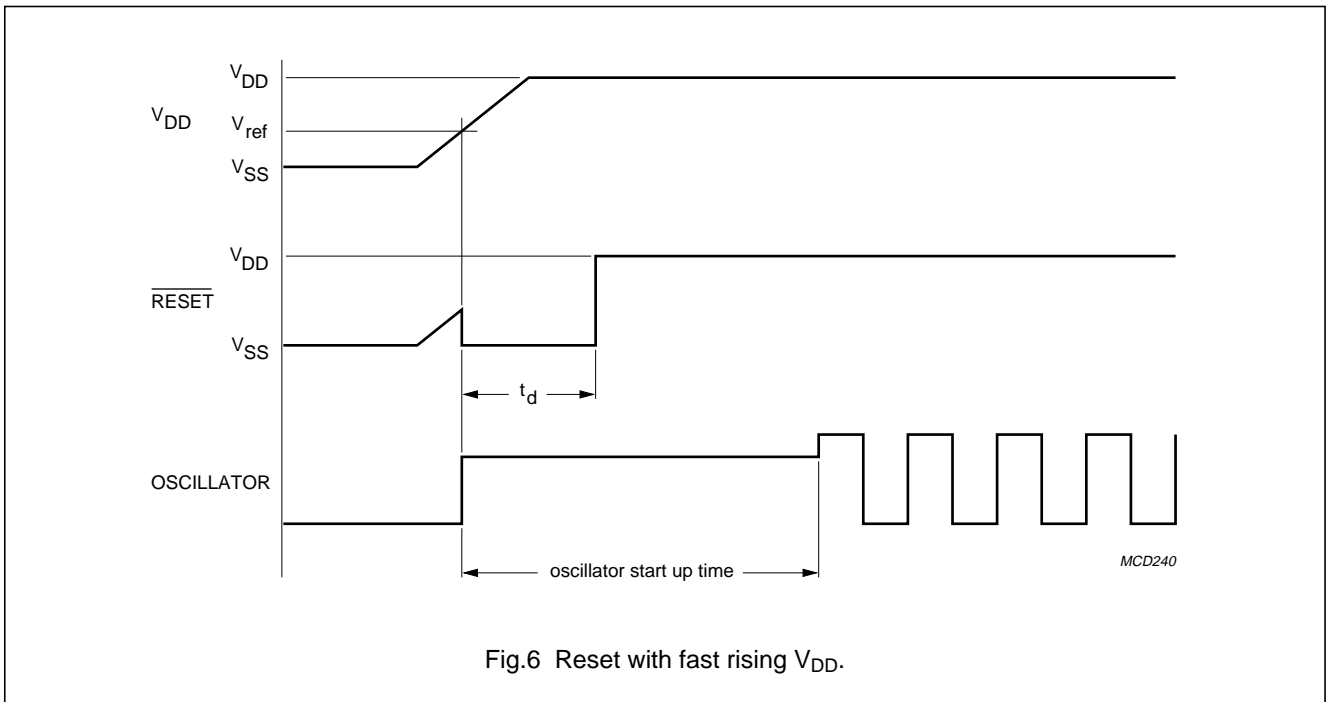

Fig.6 Reset with fast rising  $V_{DD}$ .
- If the  $V_{DD}$  rises above the minimum operation voltage before time period  $t_d$  is exceeded, no external components are necessary (see Fig.6).